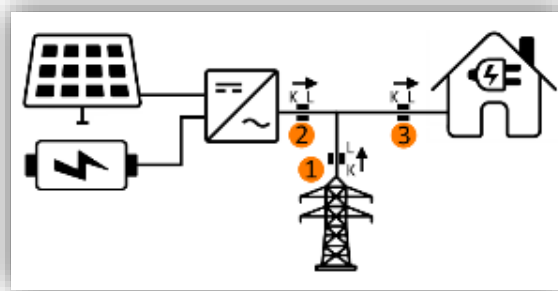

Figure 150. Installation diagram with solar panels and battery
This section defines the points of the installation where the measurements must be taken in order to have a correct operation of the global tab of the energy monitor. Figure 150 shows the diagram of an installation with solar panels and battery:
- **Installation without solar panels or battery:** only point 1 shown in the diagram in Figure 150.